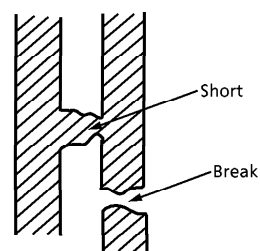

Fig.2 Lead pattern
- b) There is a short or break which affects electrical characteristics in any lead pattern. (see Fig.2)